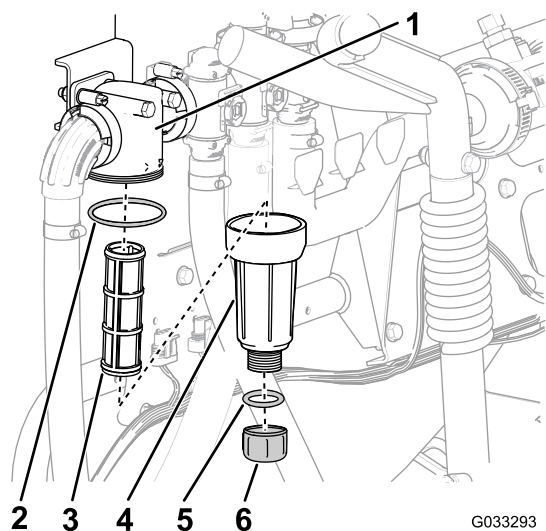

Figure 57
2. Align a drain pan under the pressure filter (Figure 57).
3. Rotate the drain plug counterclockwise and remove it from the bowl of the pressure filter (Figure 57).
4. Rotate the bowl counterclockwise and remove from its filter head (Figure 57).
5. Remove the old pressure filter element (Figure 57).
6. Check the O-ring for the drain plug (located inside the bowl) and the O-ring for bowl (located inside the filter head) for damage and wear (Figure 57).
7. Install the new pressure filter element into the filter head (Figure 57).
8. Install the bowl onto the filter head and tighten by hand (Figure 57).
9. Install the plug into the bowl and tighten by hand (Figure 57).